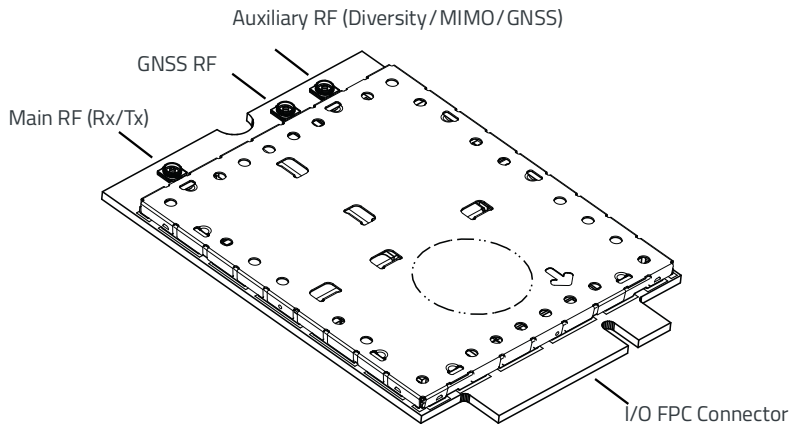

Figure 3-1: Module Connectors
- Connect to system ground using the mounting hole shown in Figure 3-1 on page 35.